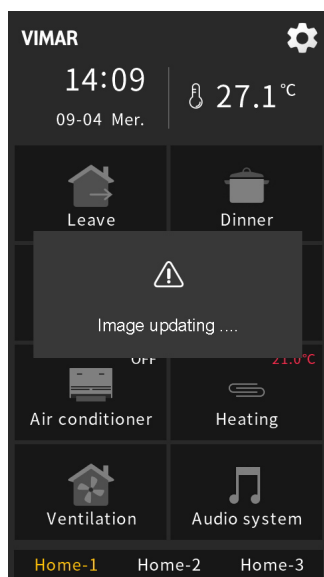
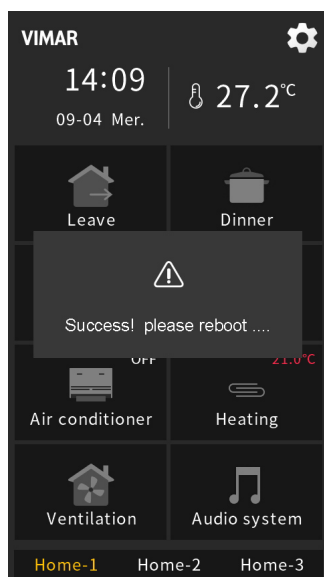
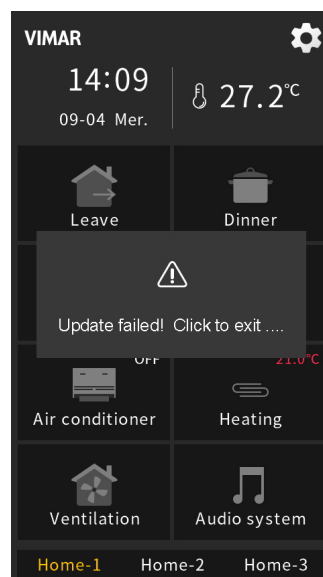
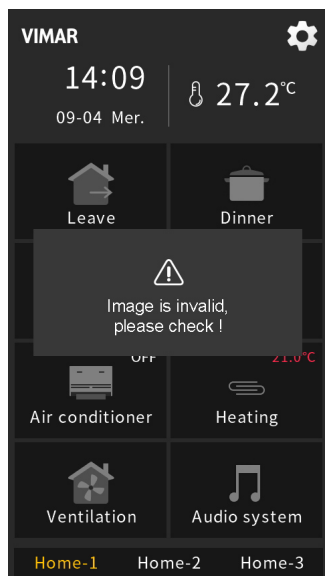

Fig. 4.2
Fig. 4.3
Fig. 4.4
Fig. 4.5
3. Click "Confirm" to update picture; after upgrade, there will pop up a window of the result, if upgrade is successful, then reboot the device manually to apply the new function icons to the system; if upgrade is failed, click any area outside the window to return to the page, as shown in Fig. 4.2, Fig. 4.3, Fig. 4.4 and Fig. 4.5.
Note: when upgrading, if the single picture is larger than the remaining storage space of the device (the total size of the device picture storage disc is about 15 MB), the remaining valid pictures shall be stopped updating, upgrade is failed as shown as Fig. 4.4.